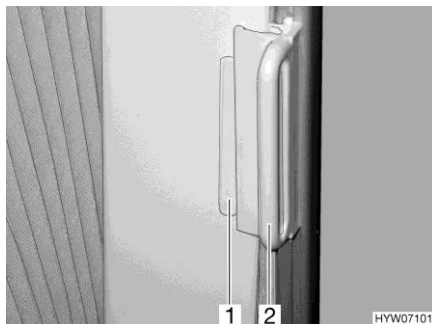

Fig. 102 Roman shade, driver's cabin window
- Grasp the handle (Fig. 102,2) of the Roman shades and draw carefully until the magnetic catch keeps the Roman shades closed.
- Push the handle (Fig. 102,2) onto the cap (Fig. 102,1). The Roman shade is secured.